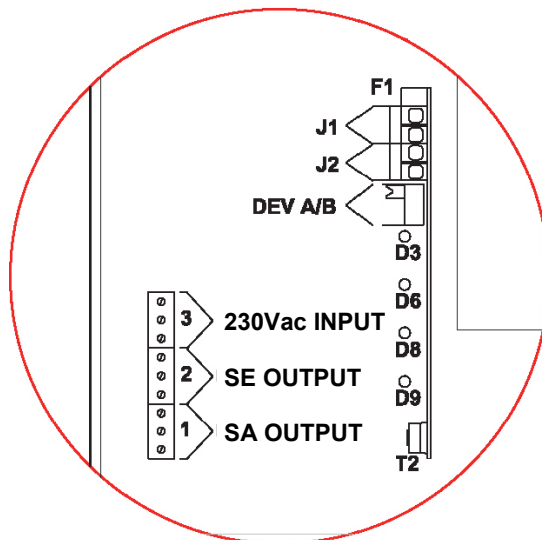

Fig.11
- 1- **DEV A/B.** (see fig. 11) this switch allow to turn ON/OFF the timer function.
- 2- **J1.** (see fig. 11) 24Vdc 0,5A output (250V/0.5A fused).
- 3- **J2.** (see fig. 11) This socket allow to turn ON the emergency power supply when working time is expired. To turn ON again the emergency power supply it is enough to close the contact on J2 socket, through a Normally Open contact.